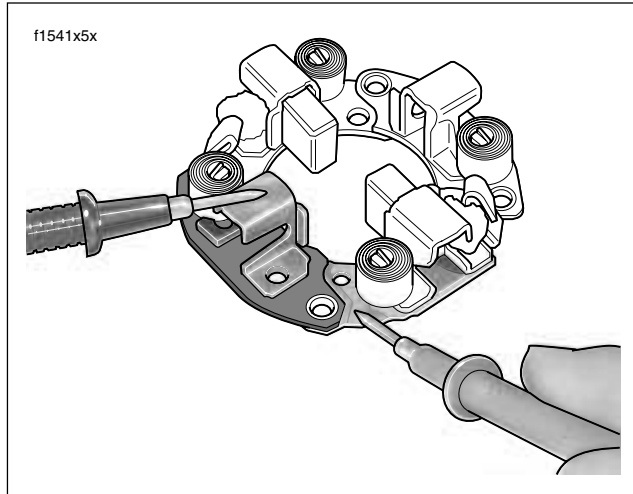

Figure 5-16. Brush Holder Insulation Test
15. See Figure 5-16. Test BRUSH HOLDER INSULATION with an ohmmeter or continuity tester. Touch one probe to holder plate and the other probe to each of the positive (insulated) brush holders. There should be no continuity (infinite ohms). If there is continuity at either brush holder, the brush holder assembly should be replaced. Touch one probe to the non-insulated brush holders and the other probe to the holder plate. If you measure any resistance, the brush holder must be replaced.